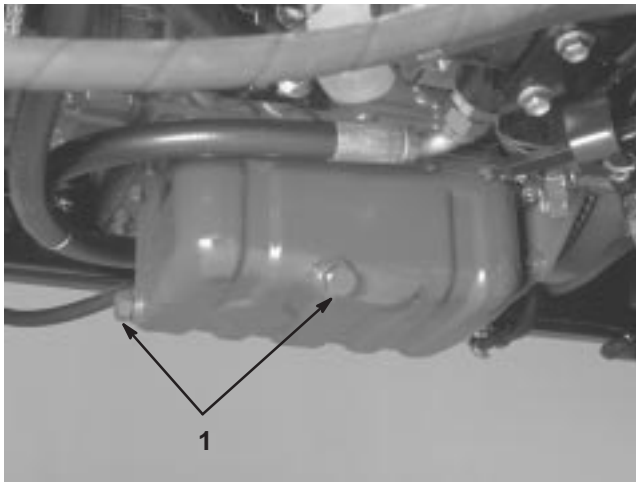

Figure 44
1. Remove either drain plug (Fig. 44) and let oil flow into a drain pan. When the oil stops flowing, install the drain plug.